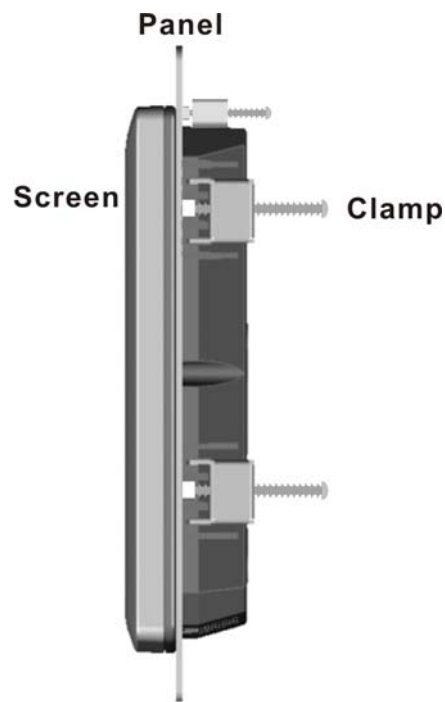

Figure 3-15: Tighten the Panel Mounting Clamp Screws
- Step 5:** Tighten the screws that pass through the panel mounting clamps until the plastic caps at the front of all the screws are firmly secured to the panel (**Figure 3-15**).